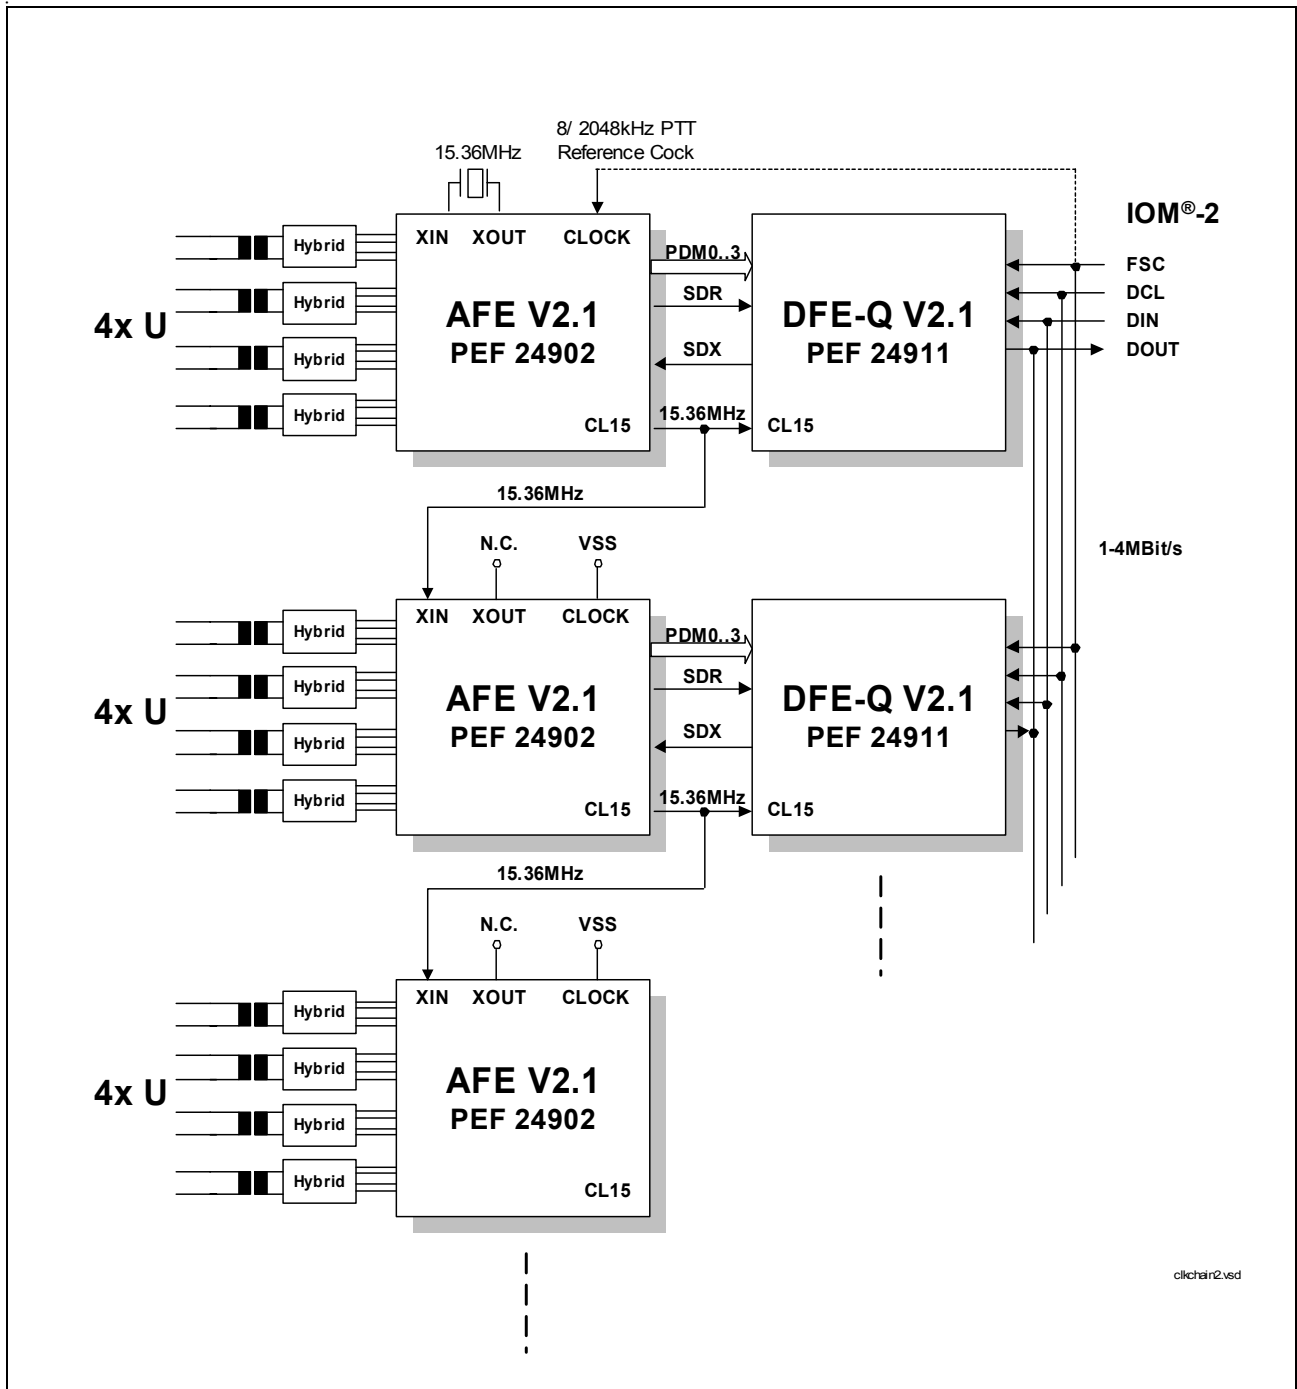

**Figure 5 Connecting Two AFE/DFE-Q Chip Sets**
**Figure 5** shows how an 8 channel line card application is realized by use of two AFE/ DFE-Q chip sets: